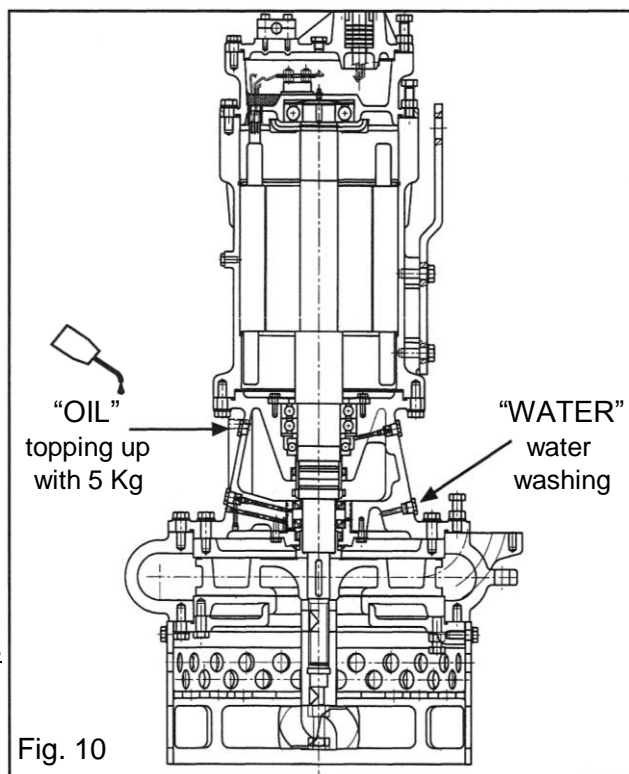

Fig. 10
- 4) For customers that work with particularly abrasive materials having a very fine particle size, we advise passing a jet of water under pressure, connecting it to the prepared threaded connector indicated with H2O (Fig. 10). The pressure must be greater than that exerted by the pump to have continuous cleaning of the area of the seals and so less wear.
- 5) Check the level and the deterioration of the oil every 8 hours of operation by removing the plug labelled "OIL" (Fig. 10). For a total oil change or topping up, the following steps have to be taken: